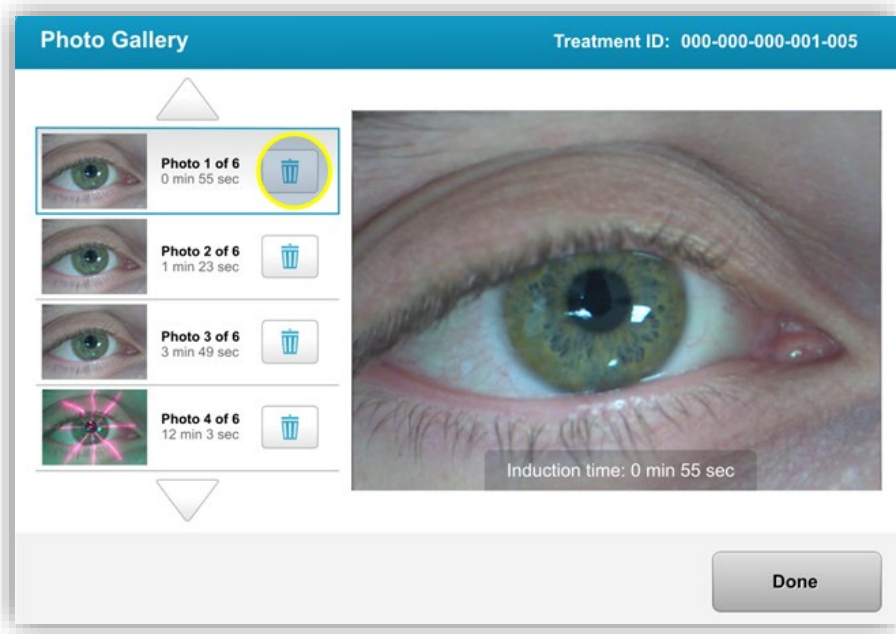

Figure 3-34. Select Trash to delete
- In the Photo Gallery, select the trash icon next to the photo to be deleted as shown in Figure 3-34.